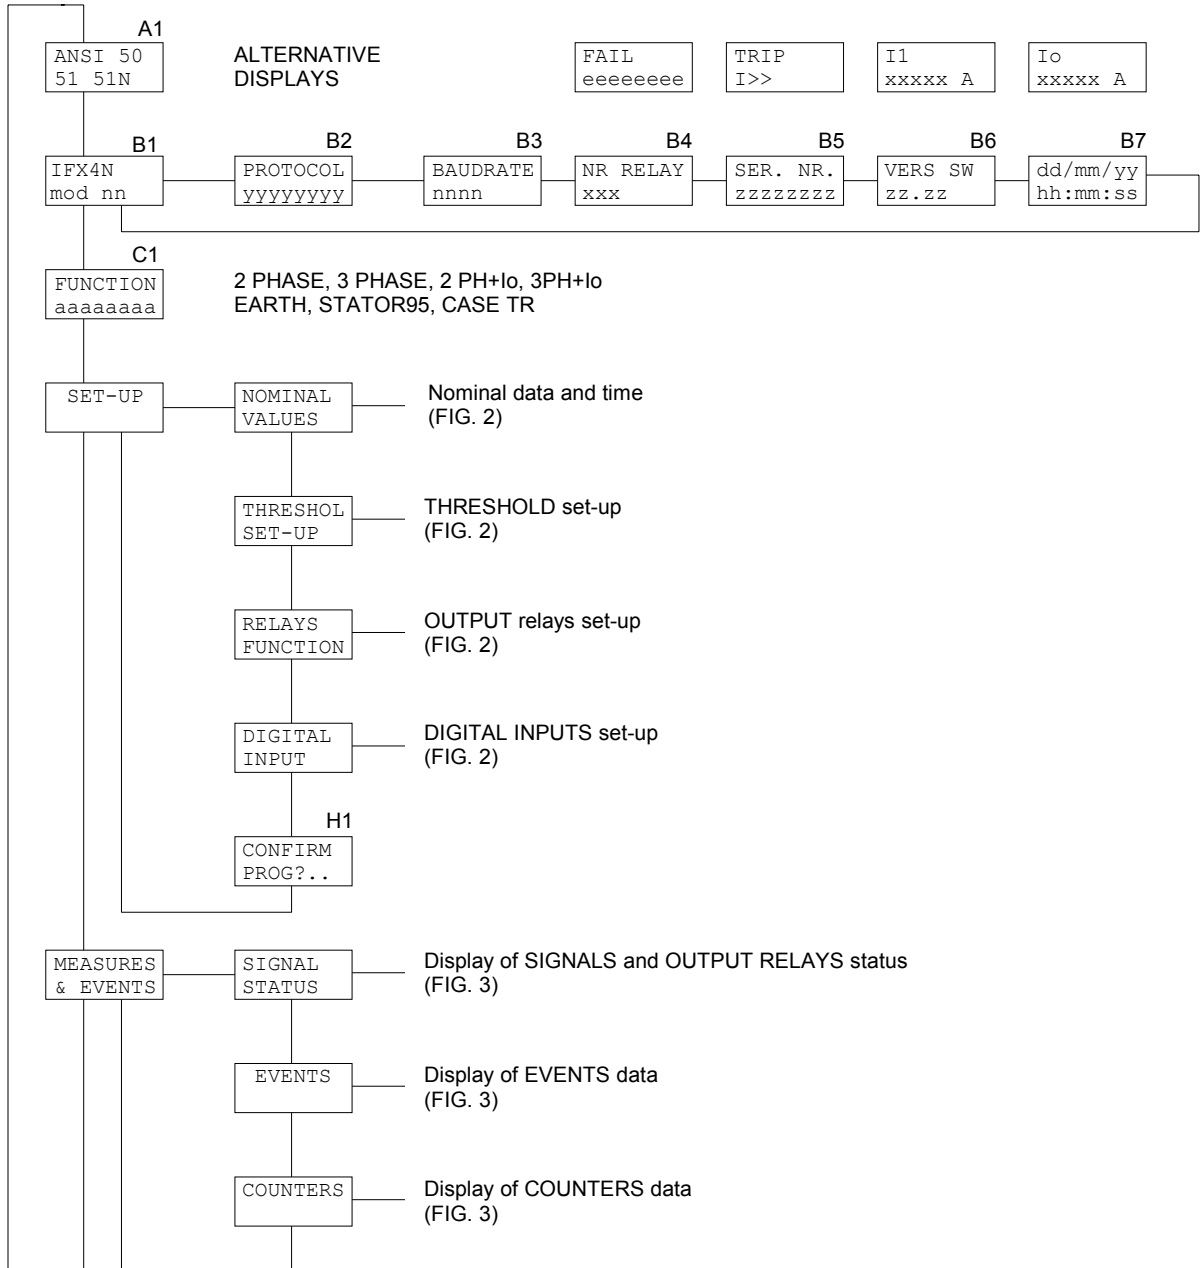

Figure 1
- the structure of the visualizations and their contents are showed in Figures 1, 2, and 3.
The programmable parameters are showed in Figures 1, 2 and 3 at the following references:
- display on STANDARD MODE (Fig. 1, ref. A1 - par. 5.1)
The contents and the structure of the displayed messages are shown in figures 1, 2 and 3; the references A1, B1, B2 etc. identify specific displayed messages in the figures.
5.3 Address and Time (fig. 1)
5.4 Protection function selection (fig. 1)